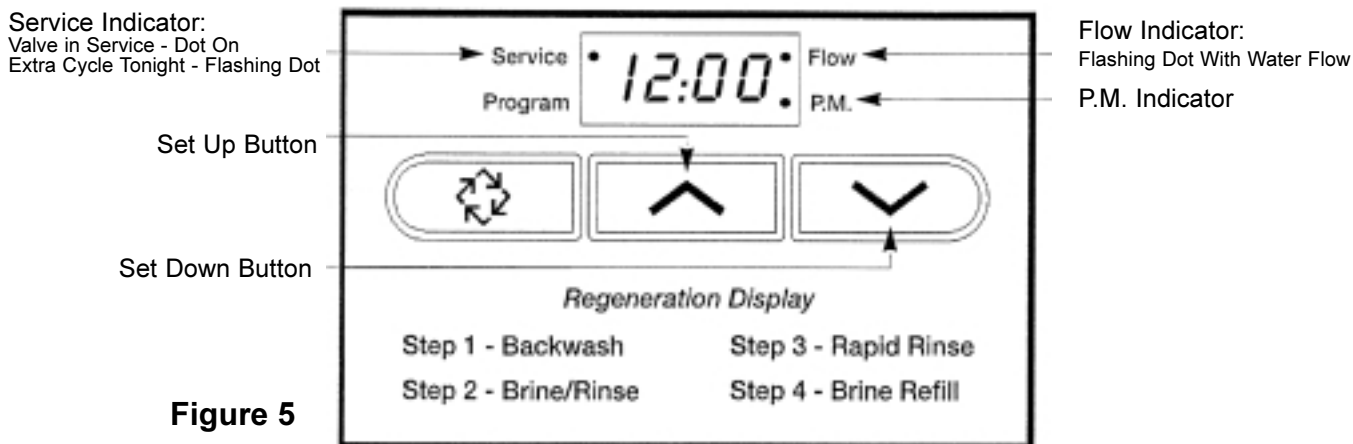

Figure 5
8. Plug the 24-volt transformer into a 120 VAC 60 Hz outlet. This valve has four positions: 1) Backwash 2) Brine/Rinse (not used) 3) Rapid Rinse and 4) Brine Refill (not used). When the valve is in the Service position, the *extra cycle* button (far left button as shown on Figure 5) must be pressed and held for 5 seconds before it activates. Press and hold the *extra cycle* button for 5 seconds to advance the valve to the "1" Backwash position. Slowly turn on the water supply and allow the unit to backwash until the air purges out of the tank and clears the system.